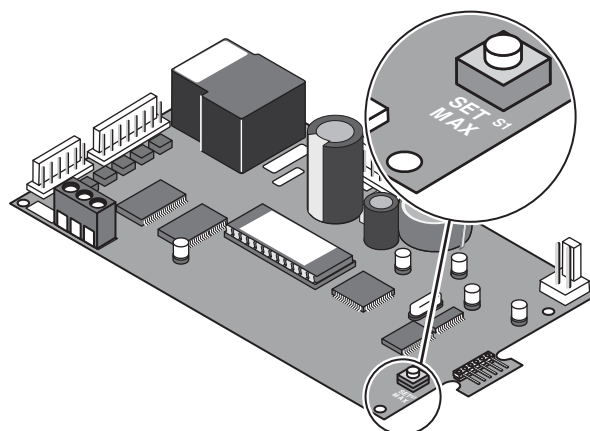

Figure 7.
3. Push the **Max. Temp. Set Point** button on the back of the control board (see Figure 7).